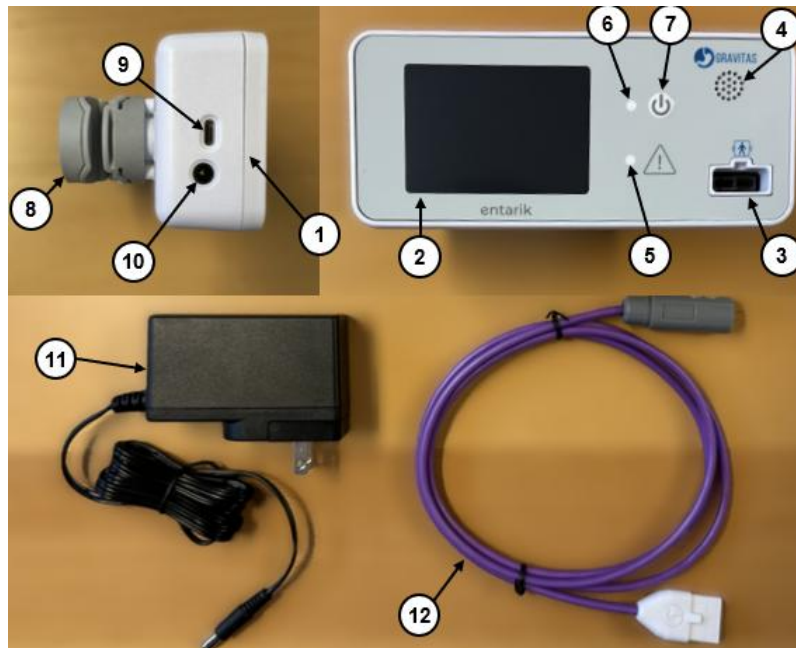
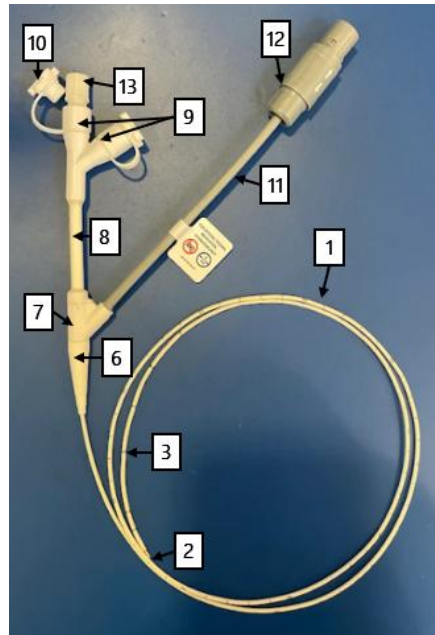

Figure 1: Entarik G2 Monitor
Figure 2: Entarik G2 NI Feeding Tube
Not Shown in Figure 1:
The Entarik G2 NI Feeding Tube is a nasogastric/orogastric feeding tube made of a radiopaque polyurethane material that includes an array of stainless-steel electrode sensors on its external surface. The feeding tube is a single use device intended for short-term use (less than 30 days). A detailed description of the device is provided below in Figure 2.
2. Connect the monitor to wall power via the provided 5V Power Supply and the Power Connection (10, in Figure 1). Note: The Entarik G2-N System shall only be used with the provided power supply.
3. Set up the feeding tube according to the IFU packaged with the Entarik G2 NI Feeding Tube. Connect the feeding tube electrical connector (12, in Figure 2) to the monitor extension cable (12, in Figure 1), then plug extension cable into the monitor connector (3, in Figure 1).
Press the Power Button (7, in Figure 1). The display screen will turn on, the Power Indicator Light (6, in Figure 1) will illuminate, and the Patient Data Entry screen will be displayed (Figure 3).